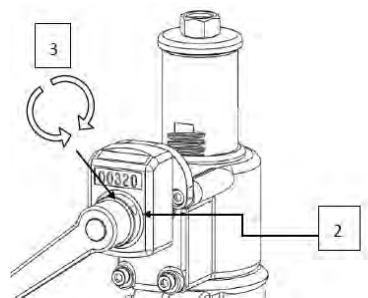

Fig. 37: Reset counter
Step 2: Loosen the screw (Pos. 2, Fig. 37).
Step 3: Set the counter to zero (Pos. 3, Fig. 37).